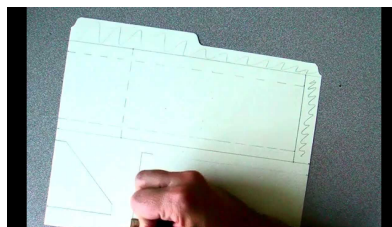

Figure 14: Tracing out the parts for our skimmer onto the manilla folder
2. Trace the cutout outlines onto the manilla folder. Press lightly with your pencil to avoid bending the cutouts, or you may end up with slightly different shapes. **See Figure 14**